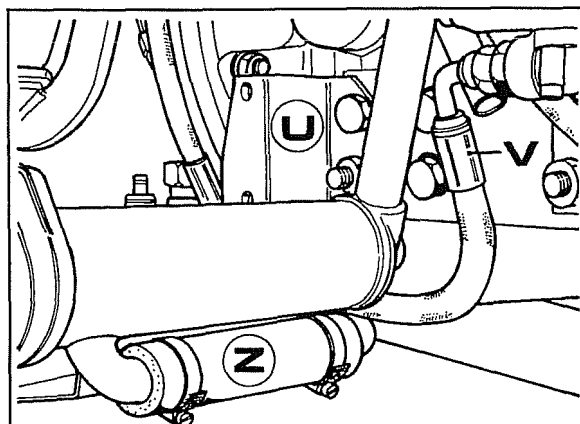

Fig. 13
11. Remove the platform carrier bracket **U** Fig. 13 and the corresponding one on the other side.
12. Disconnect delivery pipe **V** fig. 13 for the prioritising valve oil.
13. Put a container under sleeve **Z** Fig. 13 to catch any oil and insert a plug to stop the oil from draining out. As an alternative, drain out all the oil and re-fill later.